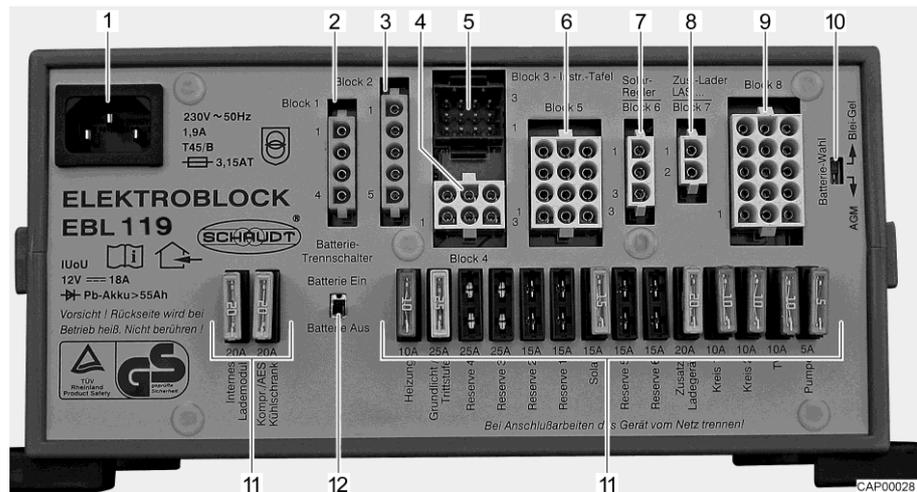

Fig. 40 Transformer/rectifier (EBL 119)
- Switch off the battery cut-off switch (Fig. 40,12) on the transformer/rectifier.